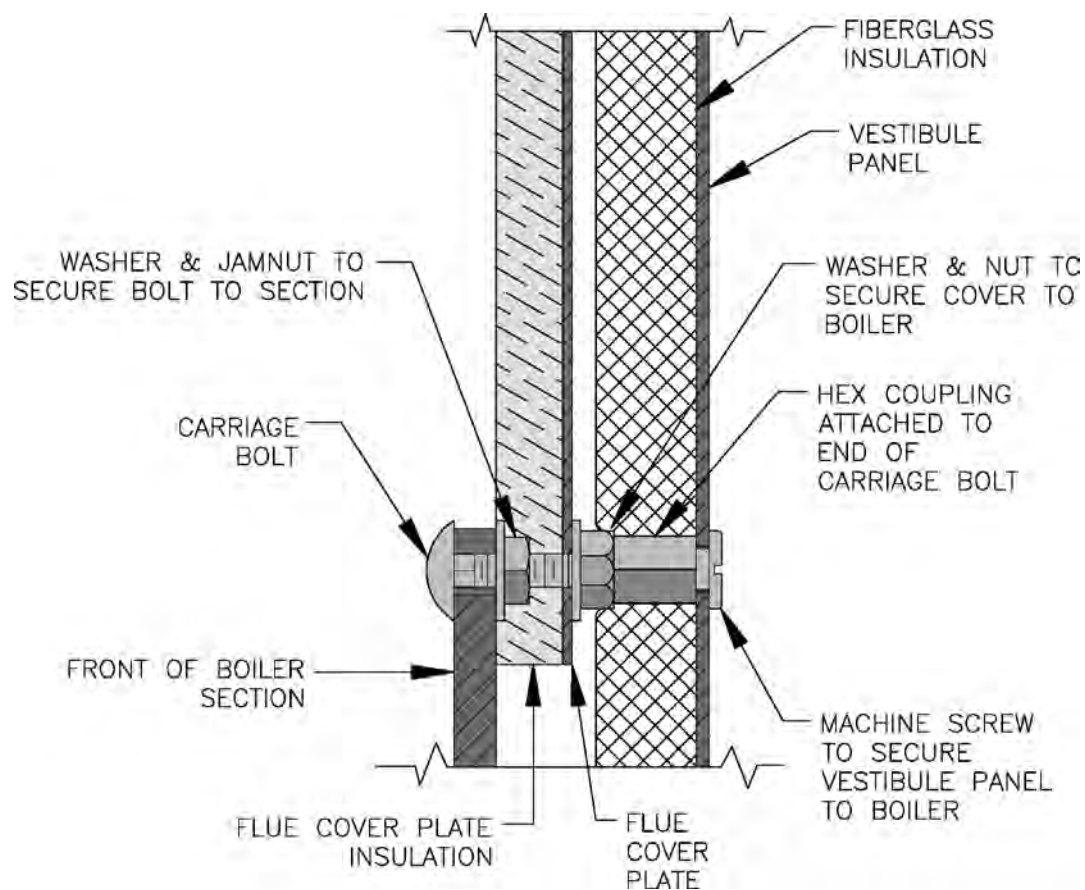

FIG. 18
17. INSTALLATION OF VESTIBULE PANEL refer to Fig. 18.